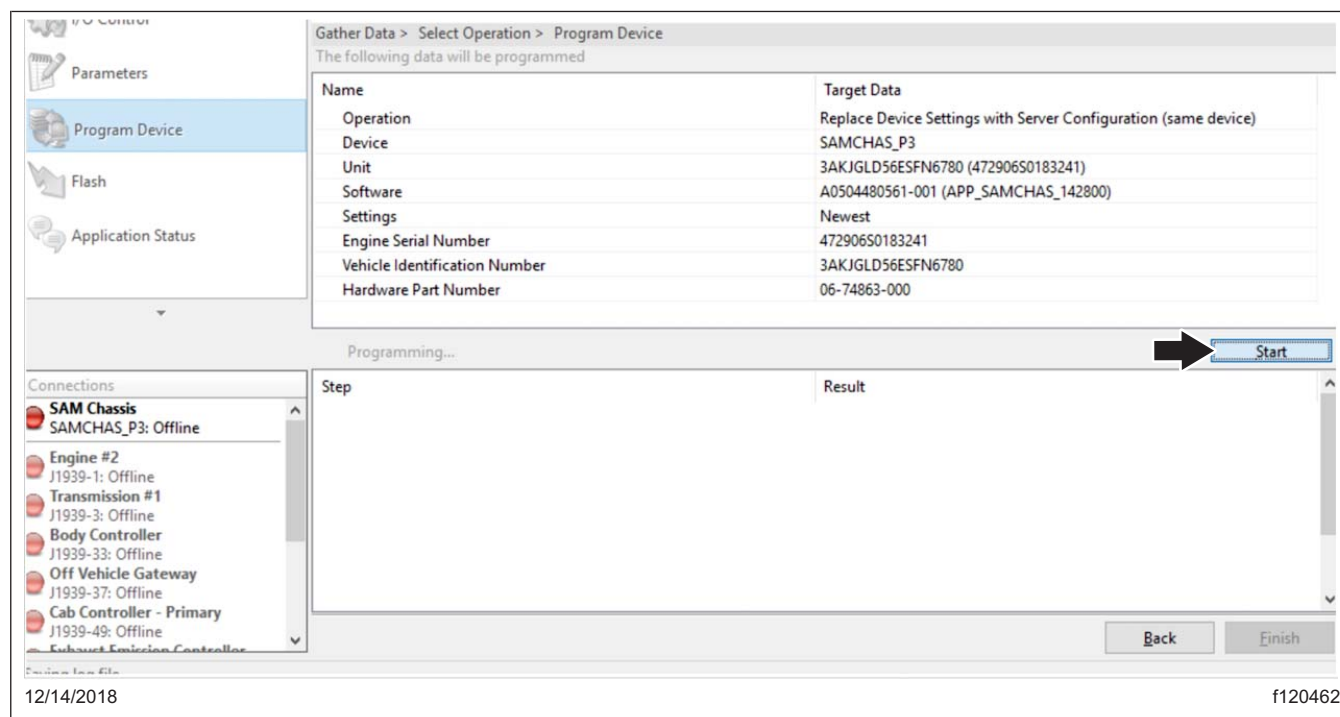

Fig. 10, Programming the Controller
13. Review and verify the VIN and hardware part number. Click "Start" to program the controller. The software will be flashed and the new parameter set will be written to the controller on the vehicle. See Fig. 10.